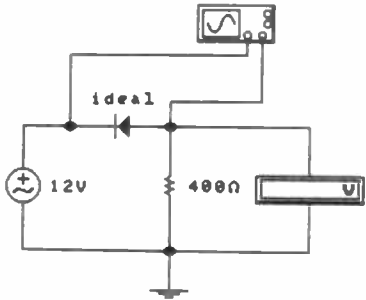

Fig. 3.18 Circuit of Fig. 3.16 modified for negative output.
3. Reverse the diode connections (see Fig. 3.18). Repeat step 1 and note the difference in the output waveform (once again, you might like to make a sketch of it). Measure the peak-peak voltage and check this is the same as before.